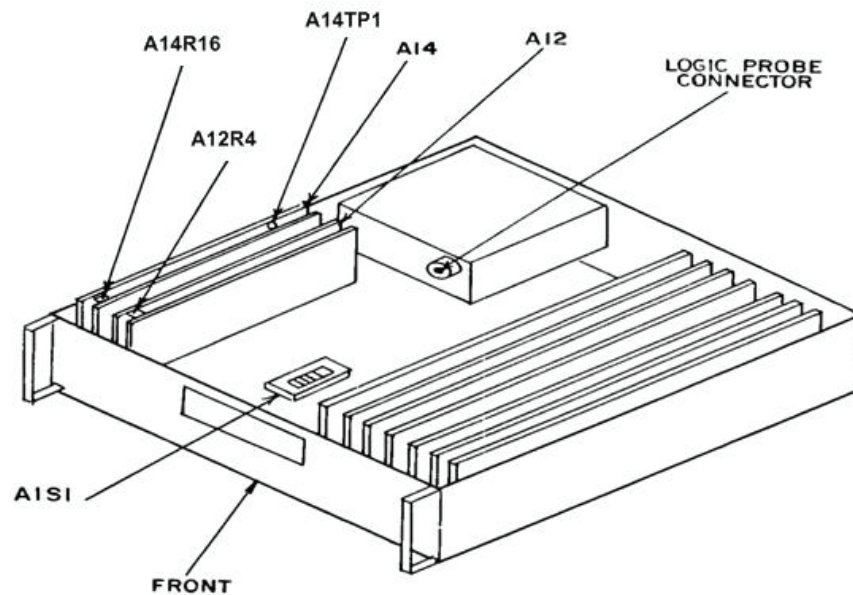

Figure 1. Test instrument - top view.
- (1) Remove TI top cover and connect oscilloscope to A14TP1 (fig. 1).
(2) Adjust oscilloscope controls as required to view one complete cycle of waveform. If waveform does not have a 50 percent duty cycle, perform **b** below.
(3) Set **PATTERN** switch to **(20)-1** and **CLOCK** switch to **75**.
(4) Momentarily set **START/STOP** switch to **START**. Observe **JITTER** readout for one minute. **JITTER** readout indication will be 2 percent or less.
b. Adjustments. Adjust A14R16 (fig. 1) for an observed duty cycle of 50 percent (R).
(1) Connect frequency counter to **INT XMIT CLOCK** connector (rear panel).
(2) Set **COUNT D/O COUNT C/L** switch A1S1 (fig. 1) to **COUNT D/O**.
(3) Set **CLOCK** switch to settings listed in table 3. Frequency counter indications will be within limits specified.
(8) Set TI switches as listed in (a) through (d) below:
(9) Adjust pulse generator amplitude for +5V peak. If digital readout does not indicate between 18 and 22 percent and oscilloscope channel 1 waveform is not at least a 2V peak to peak square wave, perform **b** below.
(10) Set **JITTER/TOTAL PEAK** switch to **JITTER**. Digital readout will indicate less than 3 percent.
(11) Disconnect all equipment.
b. Adjustments. Adjust A12R4 (fig. 1) for a 2 V p-p square wave on oscilloscope channel 1, and a digital readout of 20 percent (R).